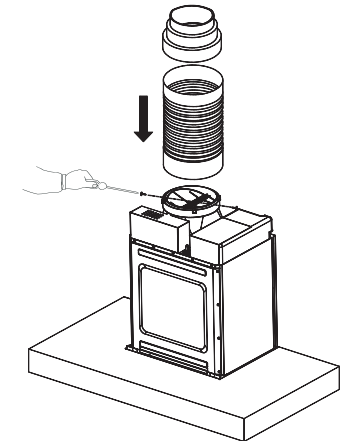

Fig.9
- Ducted mode air exhaust system (Fig.9).